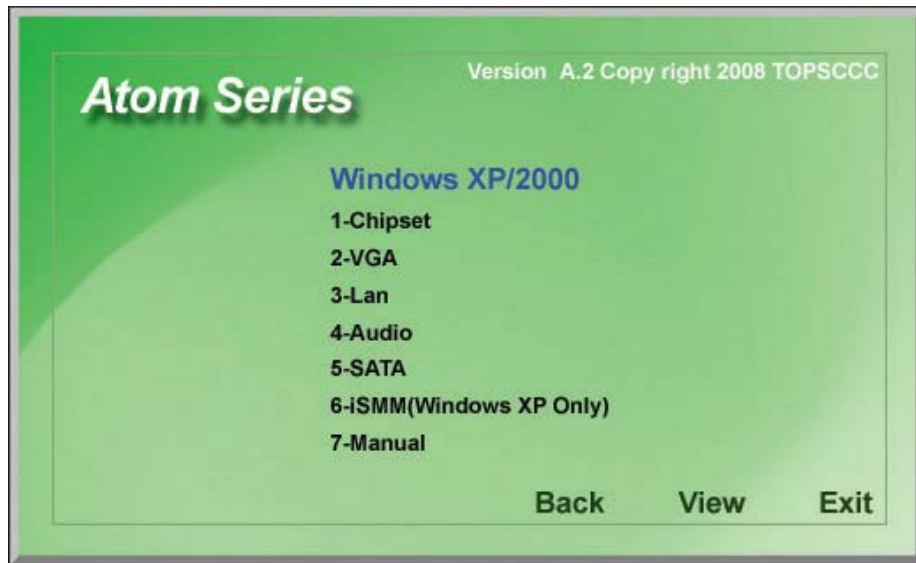

Figure 6-1: Drivers
Step 2: The list of drivers in **Figure 6-1** appears.
- Step 1:** Access the driver list shown in Figure 6-1. (See **Section 6.2**)
Step 1: Access the driver list shown in Figure 6-1. (See **Section 6.2**)